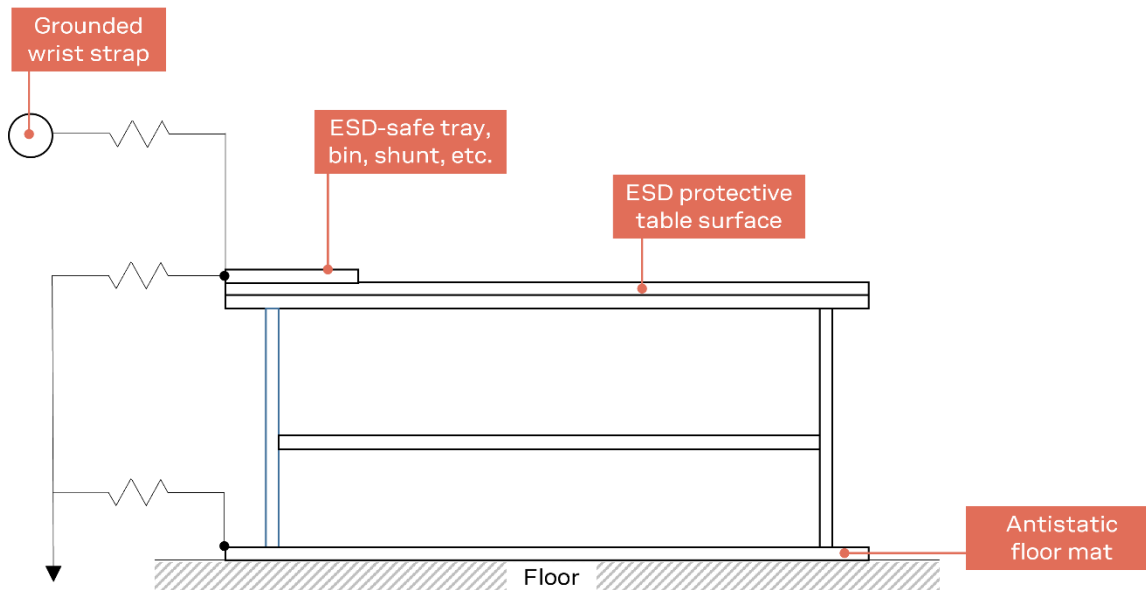

Figure 24: Standard workstation setup for safe handling of ESD-sensitive devices
- ⚠** As the risk of electrostatic discharge in the RF transceivers and patch antennas of the module is of particular concern, standard ESD safety practices are prerequisite. See also Figure 24.